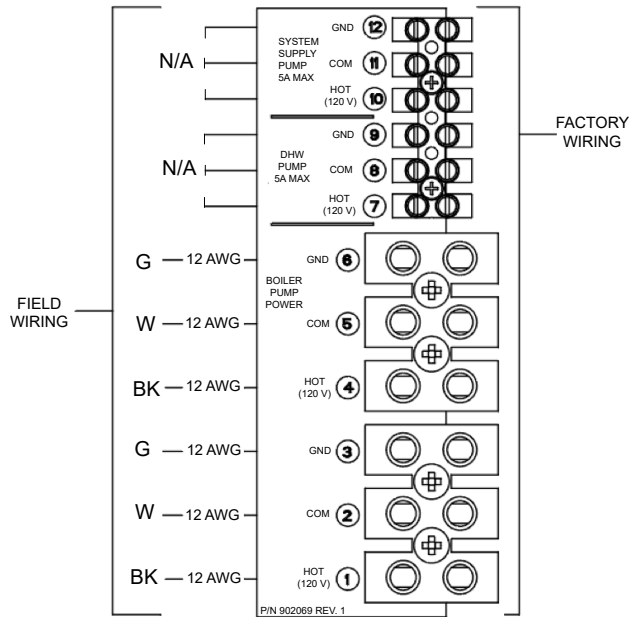

Figure 31. Cascade Follower
1. Once the primary heater has been identified, additional heaters will be designated as follower heaters. Ensure DIP switch 2 on each follower VERSA is set to the OFF/Down position. See **Figure 31**.